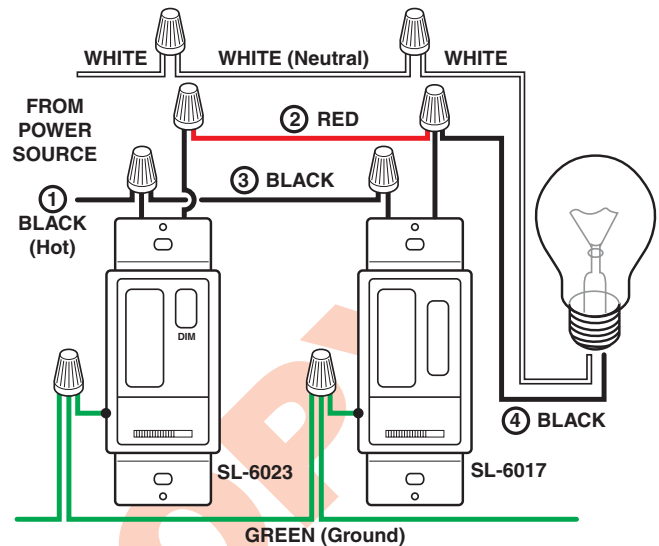

Figure 2
5. Connect the wires of the 3-way wall switch transmitter and wall switch receiver to the wires in the junction box as shown in Figure 2. Use the supplied wire connectors to secure the wires (see Figure 2). *Note:* Either black wire on the transmitter and receiver can be used to connect to the hot wire.